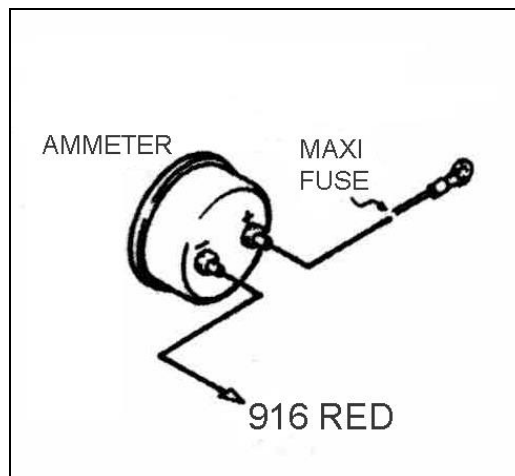

Figure 8-2 Ammeter & Maxi Fuse
8.3 Connecting an Ammeter and the Maxi Fuse. See Figure 8-2.